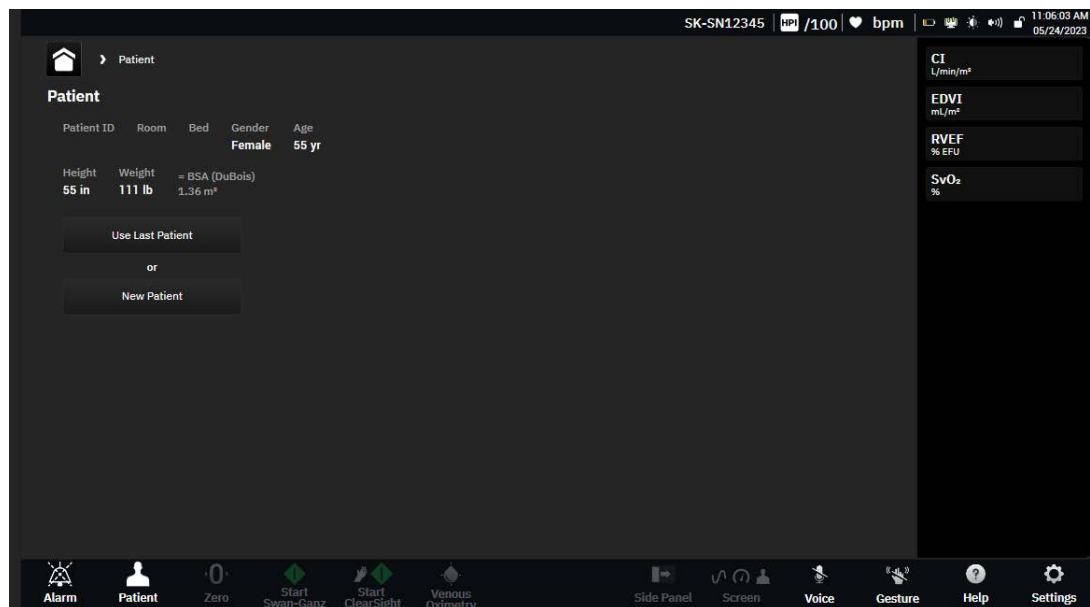

Figure 5-2 New or continuing patient screen
After the system is turned on, the user has the option to either continue monitoring the last patient or to start monitoring a new patient. See figure 5-2 below.
- 1 After turning on the monitor, the new or continuing patient screen appears (figure 5-2). Touch **New Patient** and continue to step 2.